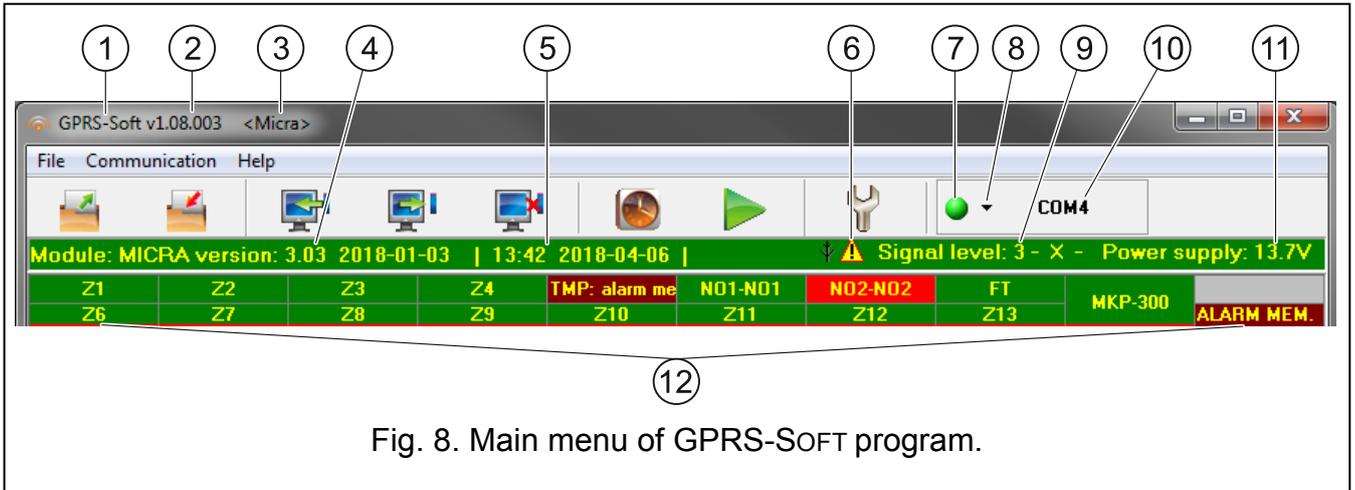

Fig. 8. Main menu of GPRS-SOFT program.
Connect the module RS-232 (TTL) port with the USB port on a computer. To make the connection, use the USB-RS converter offered by SATEL. Indicate in the GPRS-SOFT program the computer COM port to be used for communication with the module. To do so, click on the "Configuration" button (see: Fig. 8 and explanations for the figure) and, in the window that will open, select the proper COM port. After activation of the selected COM port, the program will establish communication with the module.
2. Click on the "Configuration" button (see: Fig.8 and explanations for the figure) and, in the window that will open, enter the number of TCP port selected for communication with the module. The number will have to be included in the body of SMS message which will be sent to the module GSM telephone number to initialize communication.
3. Click on the  button (see Fig. 8). In the menu that will open, select "TCP/IP" to activate the server.
Explanations for Figure 8: